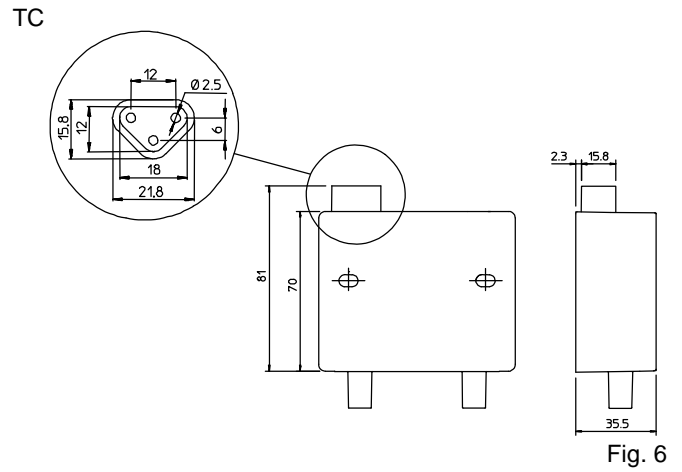
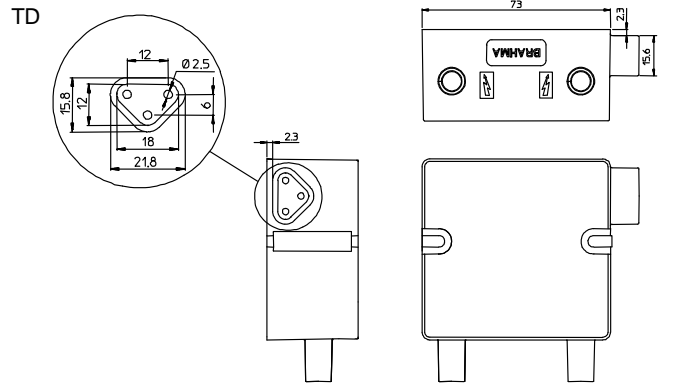
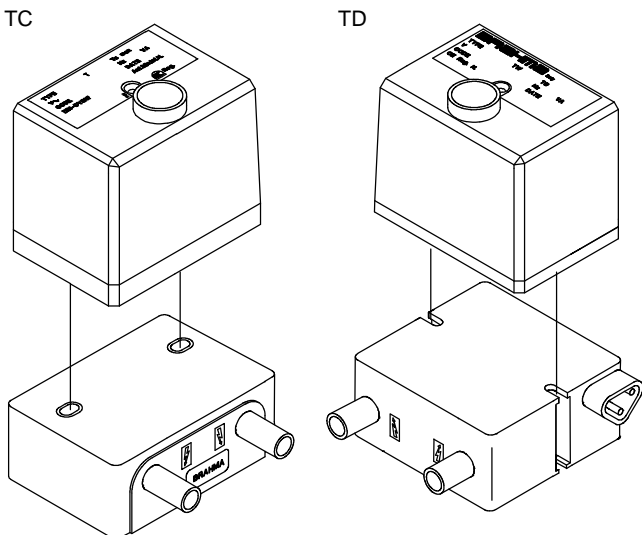

Fig. 6
Fig. 7
Fig. 5
- P: supplied with outlet (Fig. 6 and 7);
These ranges of ignition transformers have been developed in order to be used with control boxes of our own production, which can be mounted on the ignition devices by means of fixing screws type M4x45, as shown in Fig. 5. All transformers can be supplied with cable or supply outlet; see, for instance, Fig. 6 and Fig. 7, which show the dimensions of a transformer provided with supply outlet (with laterals isolators).